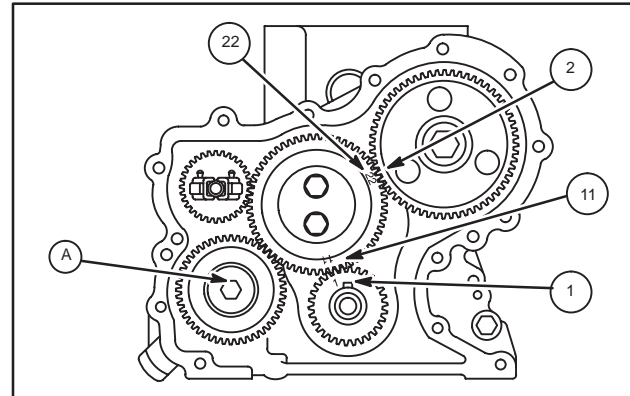

Fig. 16 – Aligning Timing Marks
4. With crankshaft key at 12 o'clock position, assemble idler gear so that timing mark 11 (AA) is aligned with timing mark 1 (A) on crankshaft gear, timing mark 22 (BB) is aligned with timing mark 2 (B) on camshaft gear as shown in Fig. 16.